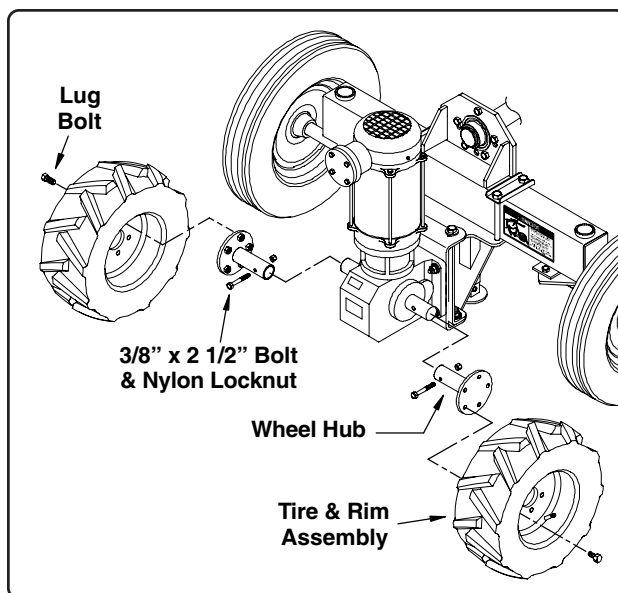

Fig. 6
1. Attach the wheel hubs to the shafts on each side of the gearbox (See Fig. 6). Secure each hub using one 3/8" x 2 1/2" bolts and nylon locknuts.
2. Mount the tire and rim assembly's onto the wheel hubs and secure using the lug bolts provided. **NOTE: There is a right and left hand tire and rim assembly. Mount tires so tire lugs appear as shown in Fig. 6.**